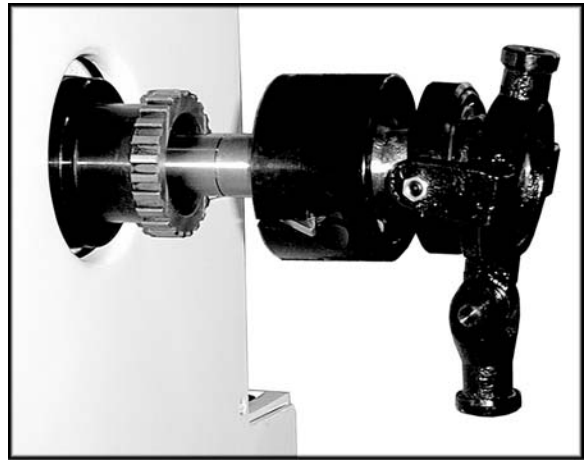

Figure 3
8. Thread the drawbar into the collet closer assembly until it is flush with the assembly (Figure 3).